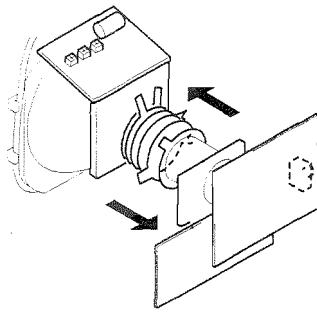

Fig. 4-2
5. Move the deflection yoke forward and adjust so that the entire screen is green. (See Figure 4-2.)